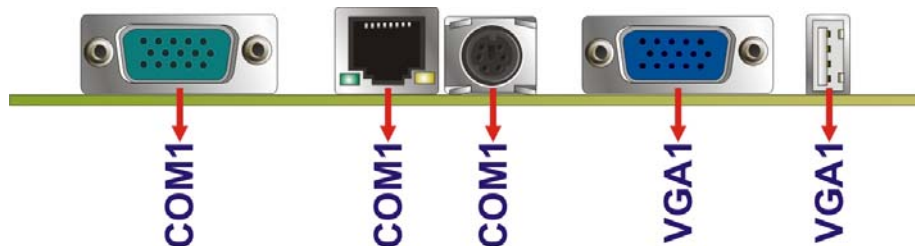

Figure 3-27: External Interface Connectors
Figure 3-27 shows the WAFER-945GSE3 motherboard external interface connectors. The WAFER-945GSE3 on-board external interface connectors are shown in Figure 3-27.
CN Location:	See Figure 3-27
- CN Location:** See Figure 3-27